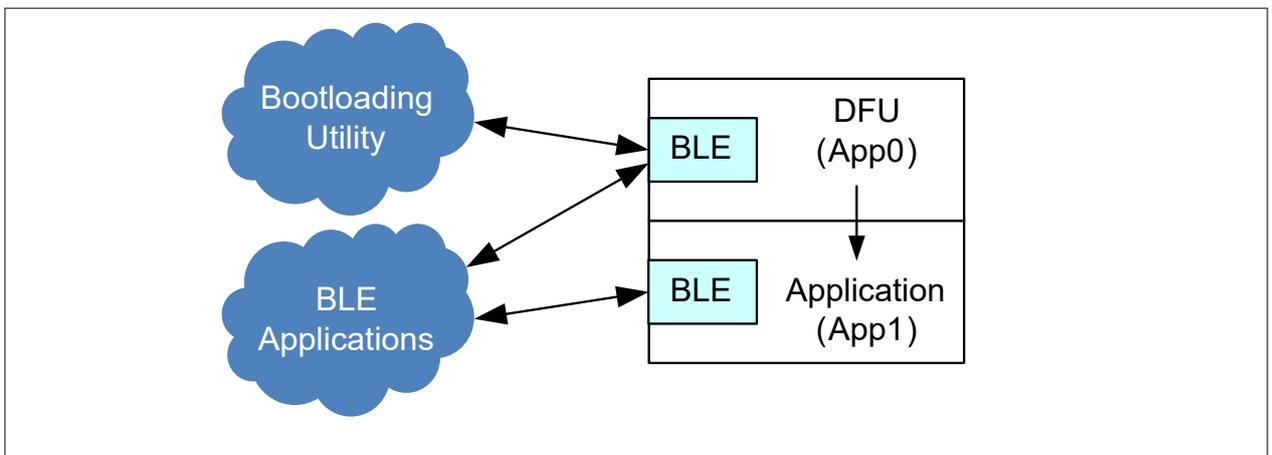
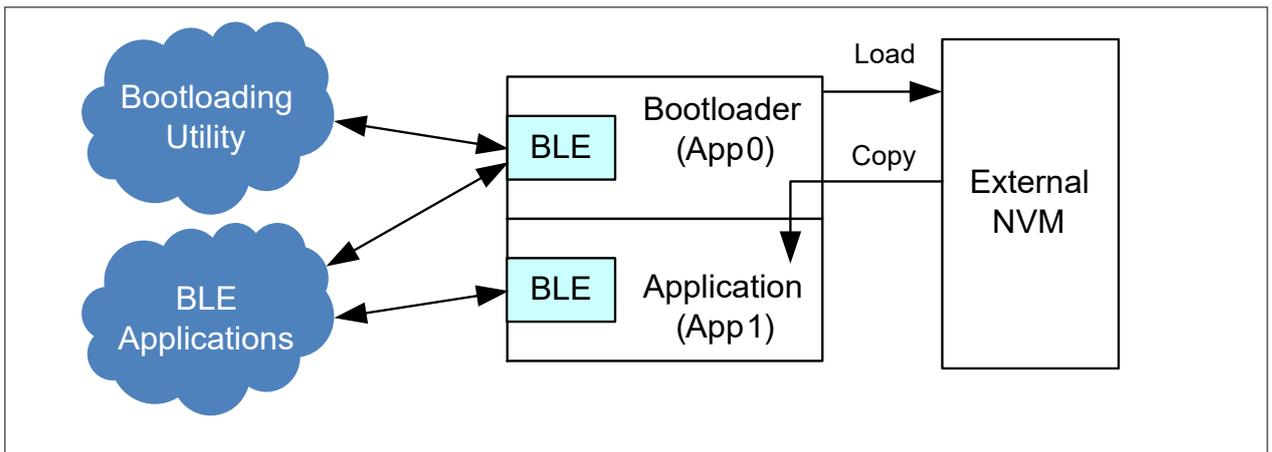

Figure 21 Data and control flow for CE216767
Figure 22 Data and control flow for CE220959
- CE216767 downloads a new application directly into flash, as Figure 21 shows
- CE220959 downloads a new application into temporary storage in an external NVM (kit IC U4, Cypress 512-Mbit serial NOR flash), and then copies it to its final destination in the PSoC™ 6 MCU device flash, as Figure 22 shows
- The bootloader (App0) and the application (App1) each have their own separate copy of the BLE stack code, as Figure 21 and Figure 22 show. Each copy occupies more than 128 KB of flash